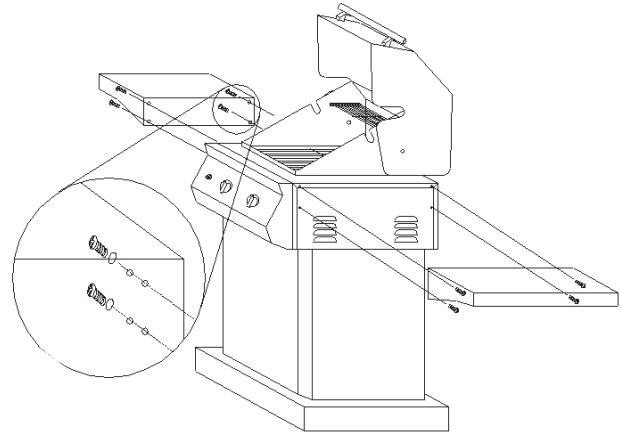

Fig. 1
2. The screws used to attach the side shelf and side burner are already screwed into the two side panels. Remove the screws from the side panels. (See Fig. 1)